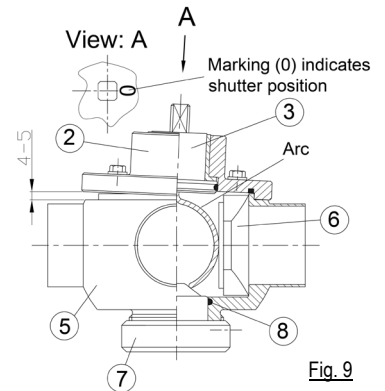

Fig. 9
- Insert bearing bushing (9) into bearing cap (2).
- Insert O-rings (4), (8) and (10).
- Assemble pivoted axle with arc (3) and bearing cap (2). Pay attention to the marking (0) on the square pin of the pivoted axle (3) → indicates the shutter position (6) (see Figure 9).
- Insert shutter (6) into valve casing (5).
- Fit the pivoted axle with the arc (3) together with bearing cap (2) to the valve casing (5) as follows:
- The pivoted axle with arc (3) is designed that it exerts a defined pressure on the shutter (6) during assembly. On account of the preload characteristics, the bearing cap (2) declines approx. 0.16-0.20in (4-5mm) off the valve casing (5) on the opposite side of the shutter (see Figure 9).
- Fasten the handle (1) in the desired position.